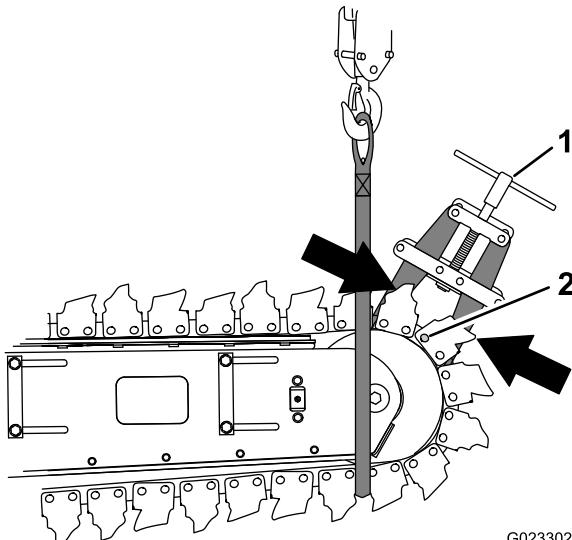
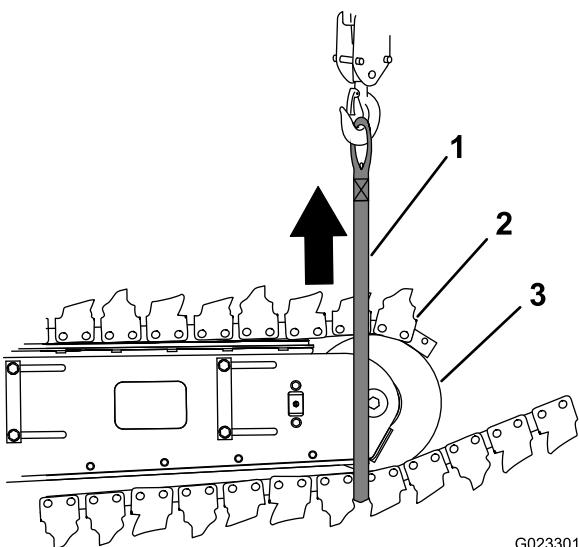

Figure 41
Figure 46
1. Counting from the master pin, loop the lifting strap around the chain at the digging tooth of the fifth or sixth link below and forward of the idler wheel (Figure 41).
3. Clamp the ends of the chain with a with a chain clamp at the link rollers at either side of the inner and outer plates at the master pin (Figure 41).
1. Lower the lifting equipment until the end of the digging chain is laying on the ground (Figure 46).
5. Move the trencher drive control to the NEUTRAL position when the end of the chain is positioned on top of the idler wheel of the boom (Figure 46).
- 1. At the end of the chain laying on the ground, loop the lifting strap around the chain at the digging tooth of the fifth or sixth link of the chain (Figure 46).
- 2. Raise the chain and position it around the idler wheel (Figure 46 and Figure 41).
- 3. Clamp the ends of the chain with a chain clamp at the link rollers at either side of the inner and outer plates at the master pin (Figure 41).